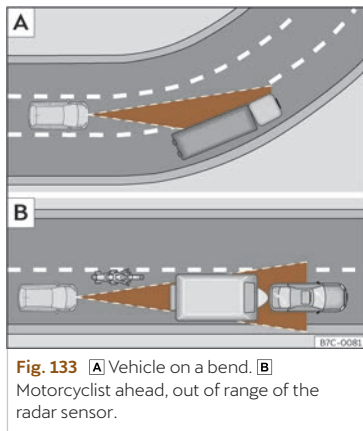

Fig. 133 **A** Vehicle on a bend. **B** Motorcyclist ahead, out of range of the radar sensor.
The ACC may not detect the vehicle in front on a curve, or may regulate the distance from vehicles in other lanes >>> **Fig. 133 [A]**.
- Vehicles that are not aligned while driving or that are outside the sensor's detection area, such as motorcycles >>> **Fig. 133 [B]**.